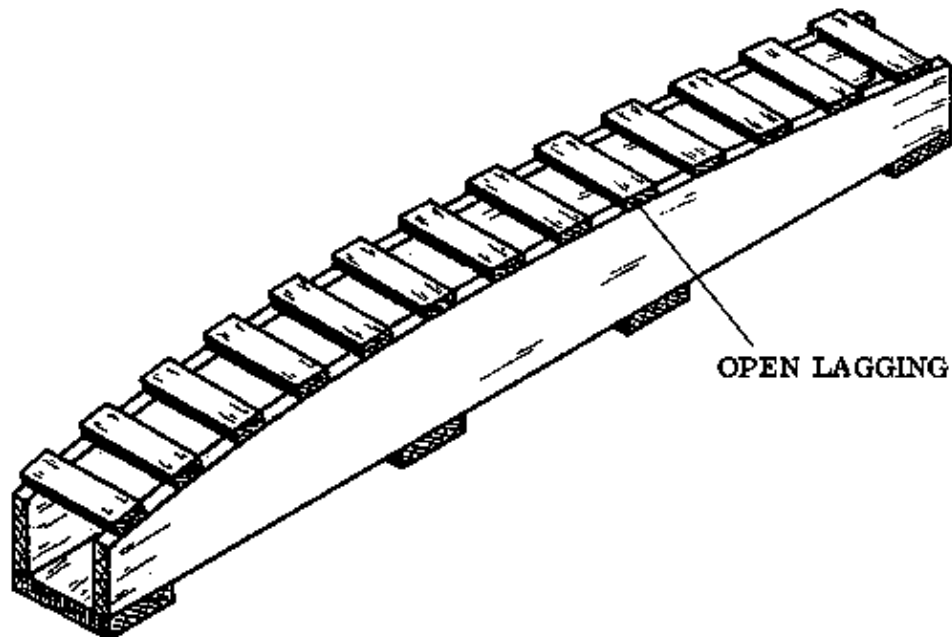

Fig. 3
– Arches spanning wider openings and those which have a rise of more than about 1/10th of the span need to be supported by a stronger centring, with either open or closed lagging (Fig. 3).